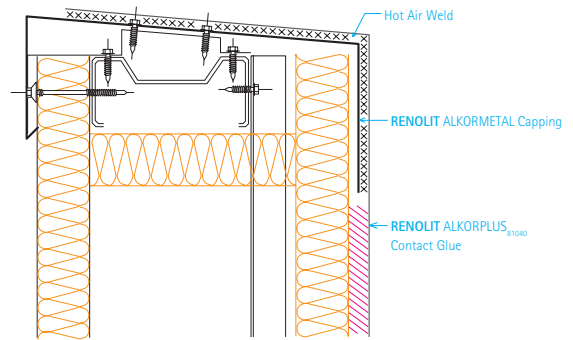

fig. 5: Double-sided gluing of parapets
• Parapets can also be adhered to achieve a wind-tight detail (see fig. 5). Here, the RENOLIT ALKORPLUS₈₁₀₄₀ contact glue is applied to the entire surface of both membrane and upstand with a minimum consumption of 2 x 150 g/m². The parapet will have an RENOLIT ALKORPLAN metal trim, but compressive foam and intermediate fastening can be omitted.